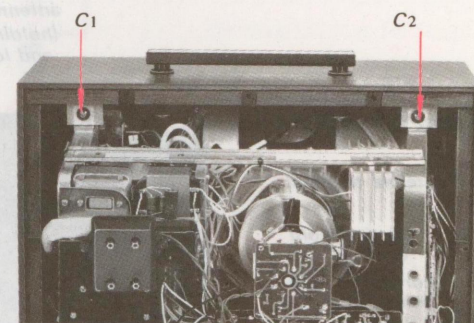

Fig. 2-4. Cabinet removal, Step 3
3. Remove the two screws labeled C1-2 in Fig. 2-4.